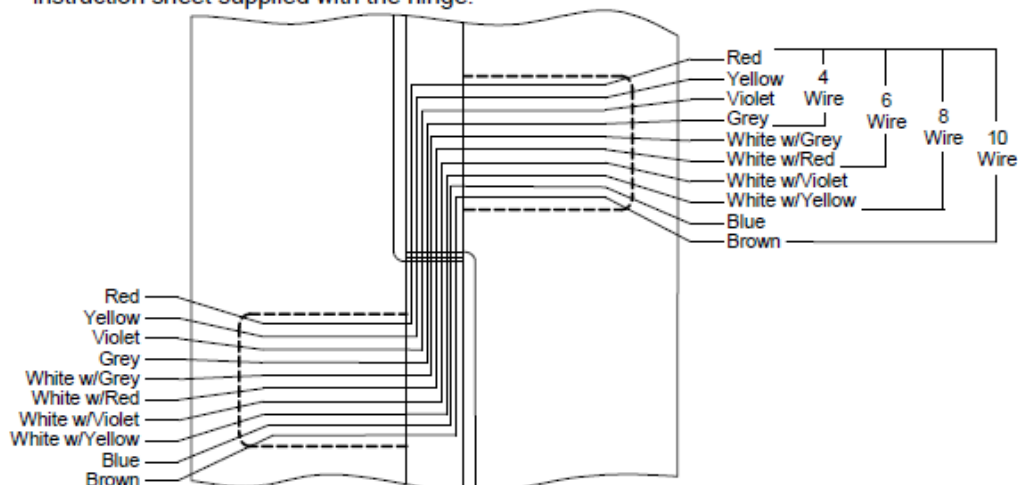

**Fig. 2**
1. Drill a 3/4" diameter access hole in both the frame rabbet and the door edge at the proper location for the wire leads. Mark the door edge and frame rabbet for the location of the security plate on the back of each hinge leaf. Mortise a 1/8" deep recess for a flush fit. (See Fig. 2) After drilling and mortising, deburr the holes to prevent damage to the wire leads.